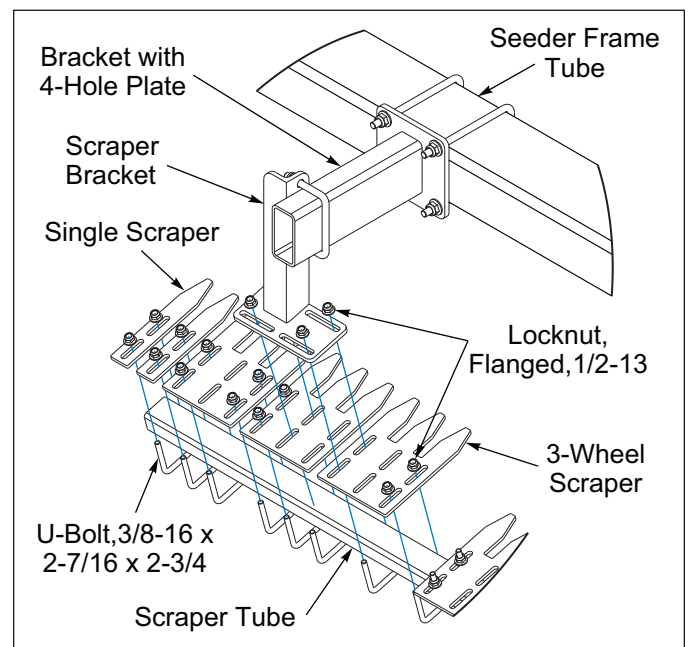
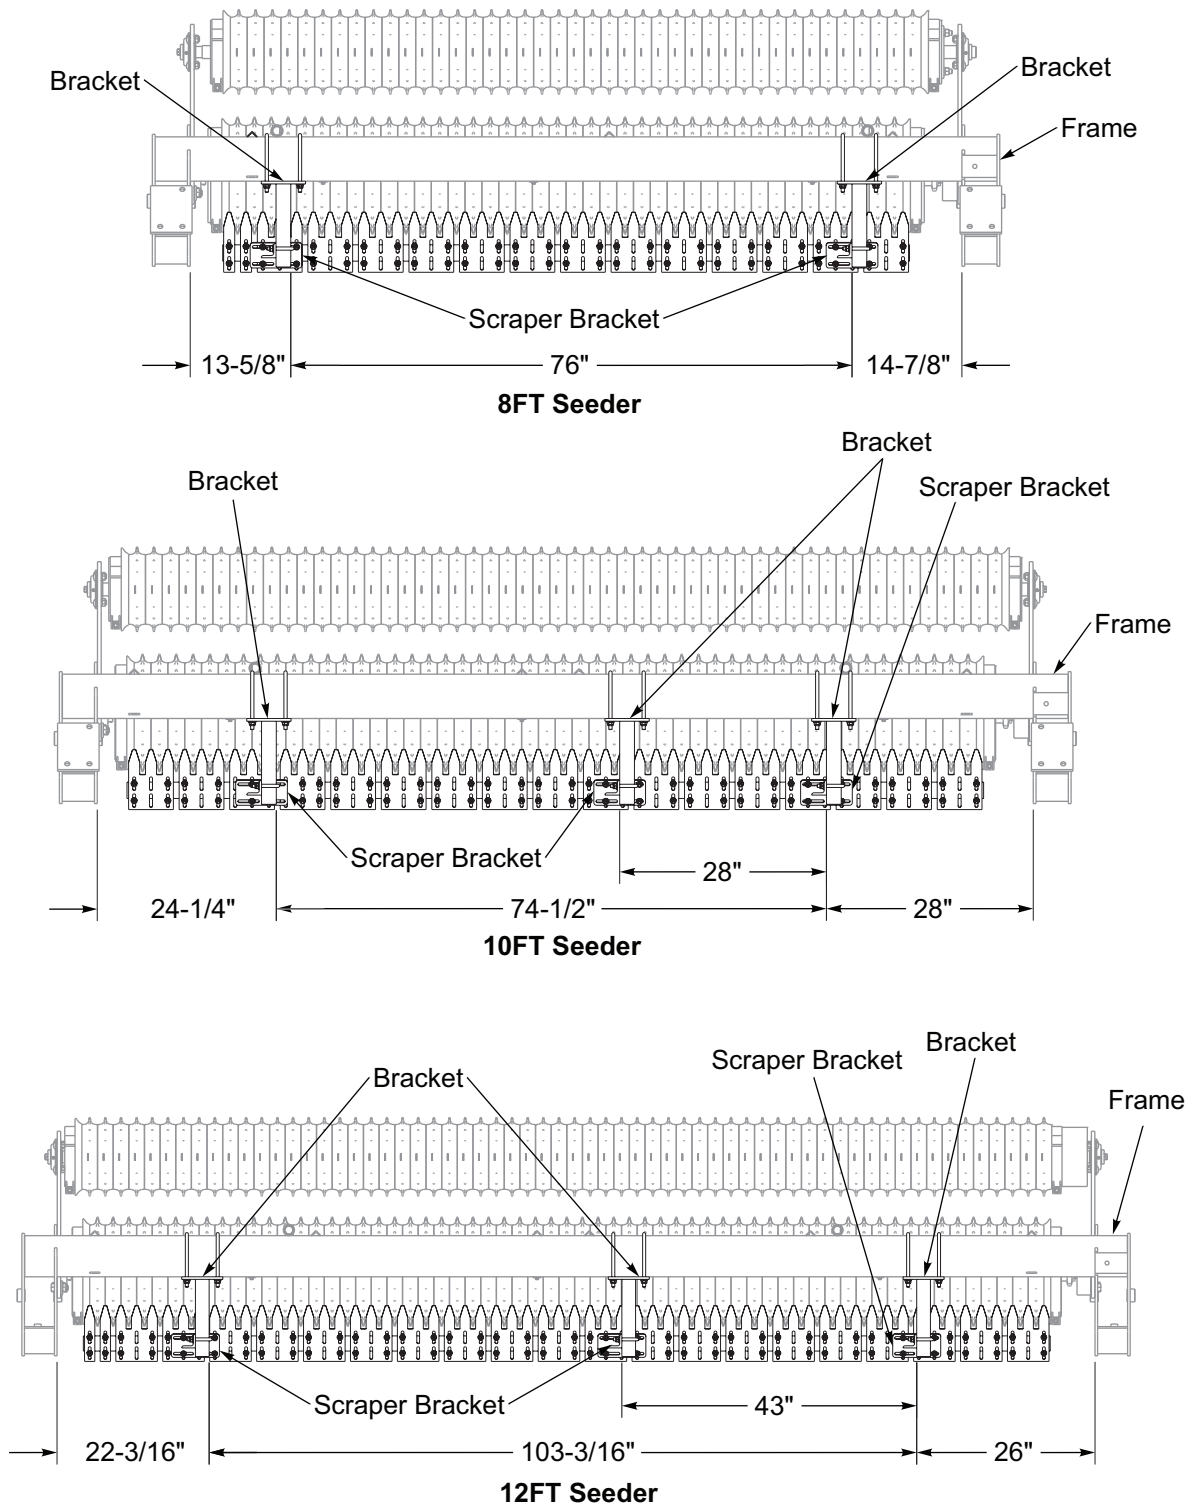

Figure 2-53: Scraper Assembly
Figure 2-54: Scraper Mounting Dimensions - Pull-Type
2. Position and assemble the Brackets with the 4-Hole Plate approximately as dimensioned on the front of the Seeder Frame Tube. See Figures 2-54 and 2-55. Secure with 1/2-13 x 4-1/2 x 7-1/2 U-Bolts and Flanged Locknuts.
Scraper Brackets should be positioned per application. Use Figures 2-54 and 2-55 only as a reference.
6. Align the Scraper Brackets Slotted Plate to the appropriate Scrapers and attach with the Scraper 3/8-16 Hardware. **See Figure 2-53.** It may be necessary to use the center pair and an outer pair of slots in the Scraper to attach the Scraper Bracket to the Scraper and Tube Assembly. **See Figures 2-54 and 2-55.**